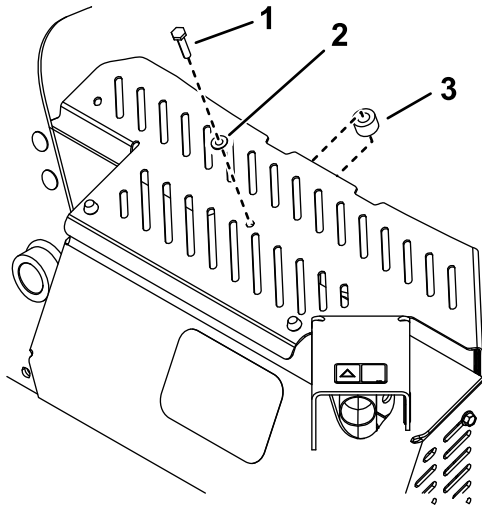

Figure 11
6. Use the thread-forming bolt (1/4 x 1-1/4 inch) and washer to install the spacer between the heat shield and muffler guard (Figure 11).